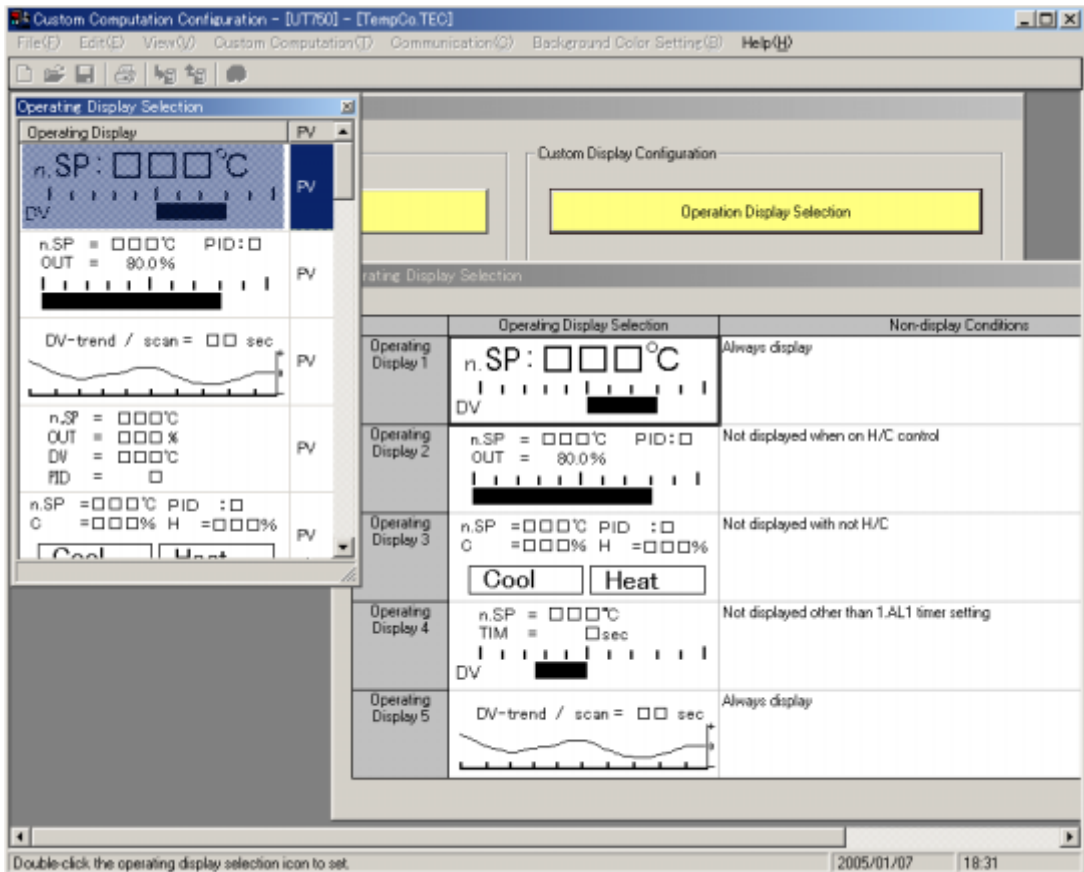

Figure 12.2.8 [Operating Display Selection] Dialog Box
- (1) In the [Custom Computation Configuration Menu] dialog box (Figure 12.0.2), click <Operation Display Selection>. The [Operating Display Selection] dialog box (Figure 12.2.8) for single-loop control appears.